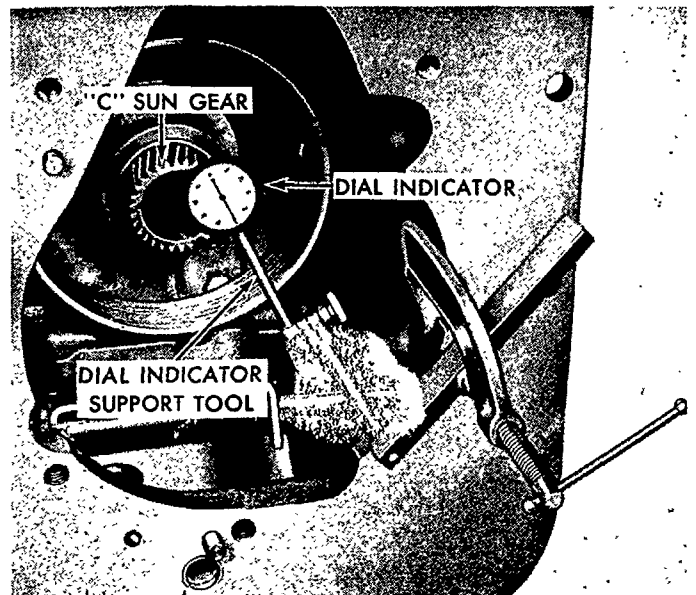

Figure 65
1. Mount the dial indicator on the transmission case as shown in Figure 65.